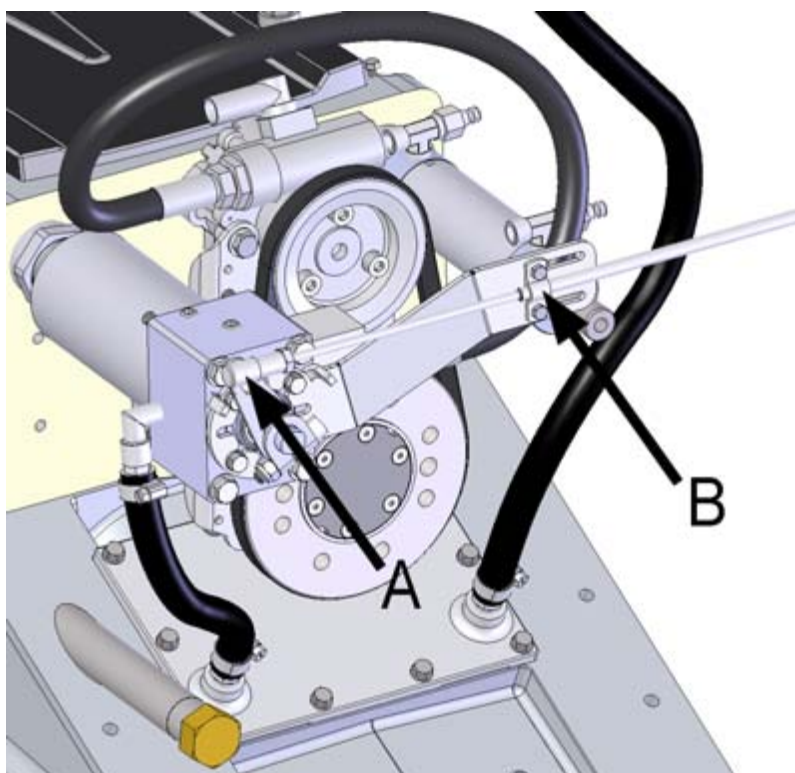

Figure 57. Removing the cable
- 1.1. Remove the cable angle joint (figure 57, point A) from the control lever.
- 1.2. Remove the saddle mounting from the cable bracket (figure 57, point B).